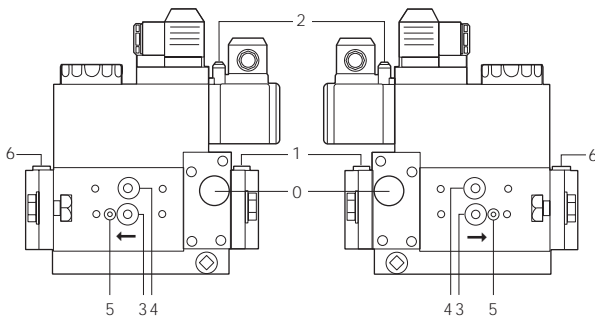
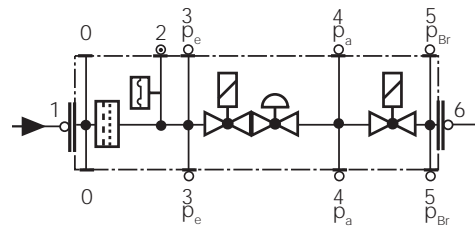

Fig. 34
Fig. 35
- Clean and check the gas filter cartridge, if necessary replace it (Fig. 34 on).
- Change the filter if the pressure difference between pressure connection 1 and 3 (Fig. 34-Fig. 35) is $\Delta p > 10$ mbar.
- Change the filter if the pressure difference between pressure connection 1 and 3 (Fig. 34-Fig. 35) is twice as high compared to the last check.